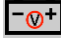

Figure 7
12. Connect the **old** VGS with the 5-pin electrical connector on the transmission connector (**D, Figure 7**).